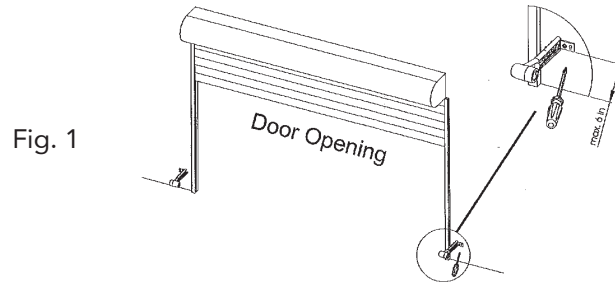

Fig. 1
4. Drill holes in the wall and attach brackets to the wall using screws provided as shown in Fig. 1.